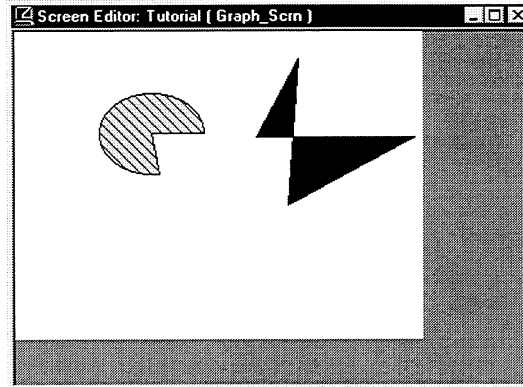

Figure 4-29. Adding a Pie to the Graph\_Scrn
4. Drag the cross hairs clockwise until a “wedge” of the pie is removed, and then click to complete the pie, as shown in Figure 4-29.